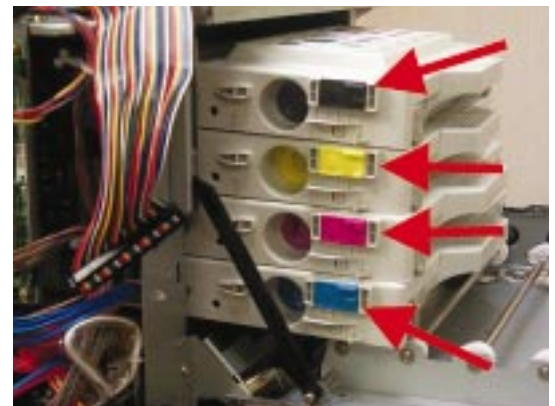

Figure 1 - Arrows denote the toner keys.
In the case of the C720, it doesn’t use the smart chip system, but instead uses a mechanical system where a colored and specifically shaped tab on the cartridge (Figure 1) trips a sensor lever or metal tab (Figure 2) that breaks a photo sensor beam in the printer (toner key sensor). When this beam is broken, it indicates to
1. Correctly re-install the toner cartridges and be sure that they are Lexmark keyed (Figure 1).